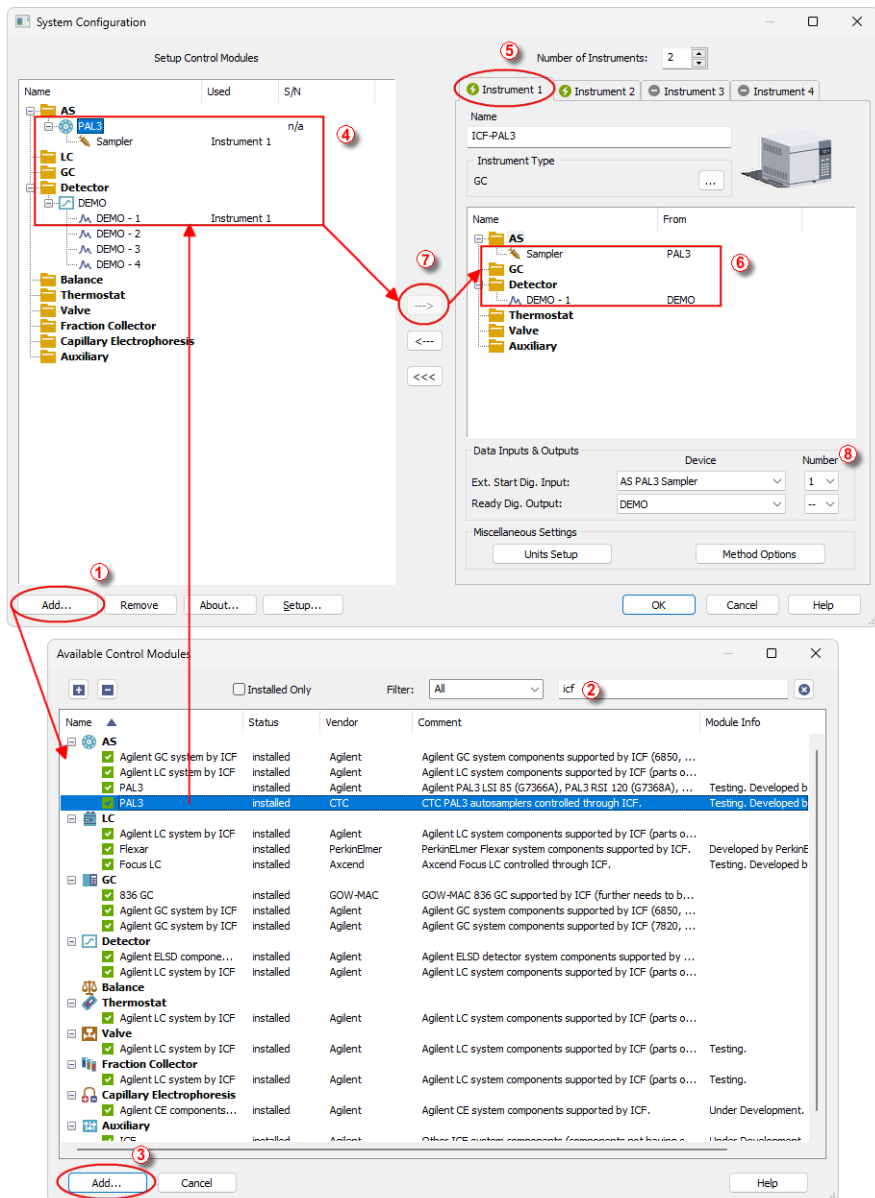

Fig. 4: System Configuration
- Press the **Add** button ① (See **Fig. 4** on pg. 5.) to invoke the **Available Control Modules** dialog.
- You can specify the searching filter ② to simplify the finding of the driver.
- Select the **PAL3** item and press the **Add** ③ button.
Caution: When the *PAL3 Setup* dialog is open for extended time, communication between **Clarity** and the AS may be lost, in such case an error message will be displayed. After accepting the error message it is necessary to set the configuration from very beginning, starting with clicking the *Add* button ① (See **Fig. 4** on pg. 5.) in the *System Configuration* dialog.
- Drag and drop the **PAL3** icon from the *Setup Control Modules* list ④ on the left side of the *System Configuration* dialog to the desired *Instrument* ⑤ tab on the right side ⑥ (or use the  button ⑦ to do so).
- Set the *Ext. Start Dig. Input* ⑧ to "1" -  ⑧ for ICF Sampler to assure correctly synchronized start of the analysis with the **PAL3** sampler's injection.